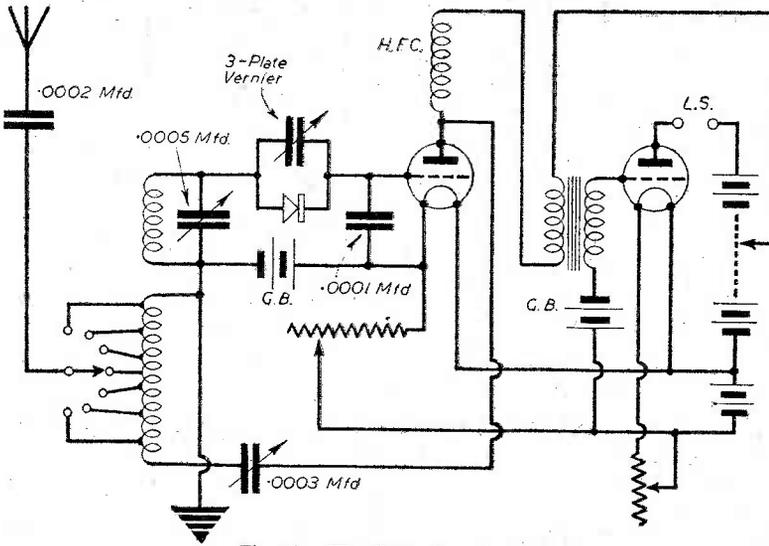

Fig. 18.—The Crystadyne circuit.
**T**HE Crystadyne is a simple but effective circuit, the original being shown in Fig. 18. When a crystal is used for rectifying in the ordinary way, no reaction effects are possible, and therefore the range of the set is limited to that of a crystal receiver. However, with the arrangement shown, the crystal performs the job of rectifier, and the valve is not just an